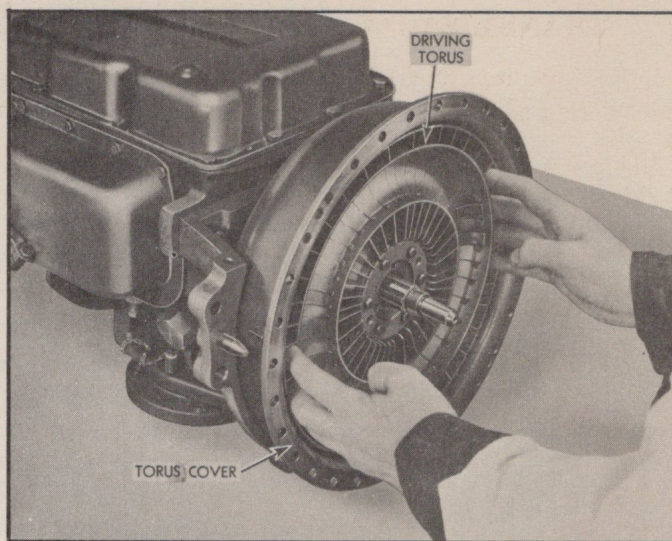

Fig. 111—Removing Driving Torus
8. Remove driving torus assembly (Fig. 111.)